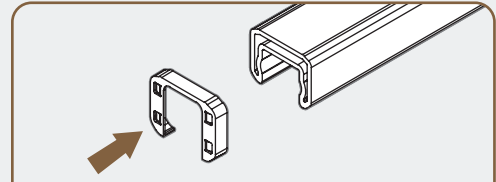

Fig.10-1 - Install gaskets over bottom rail ends
- IF USING GASKETS, install them over rail ends (Fig.10-1)